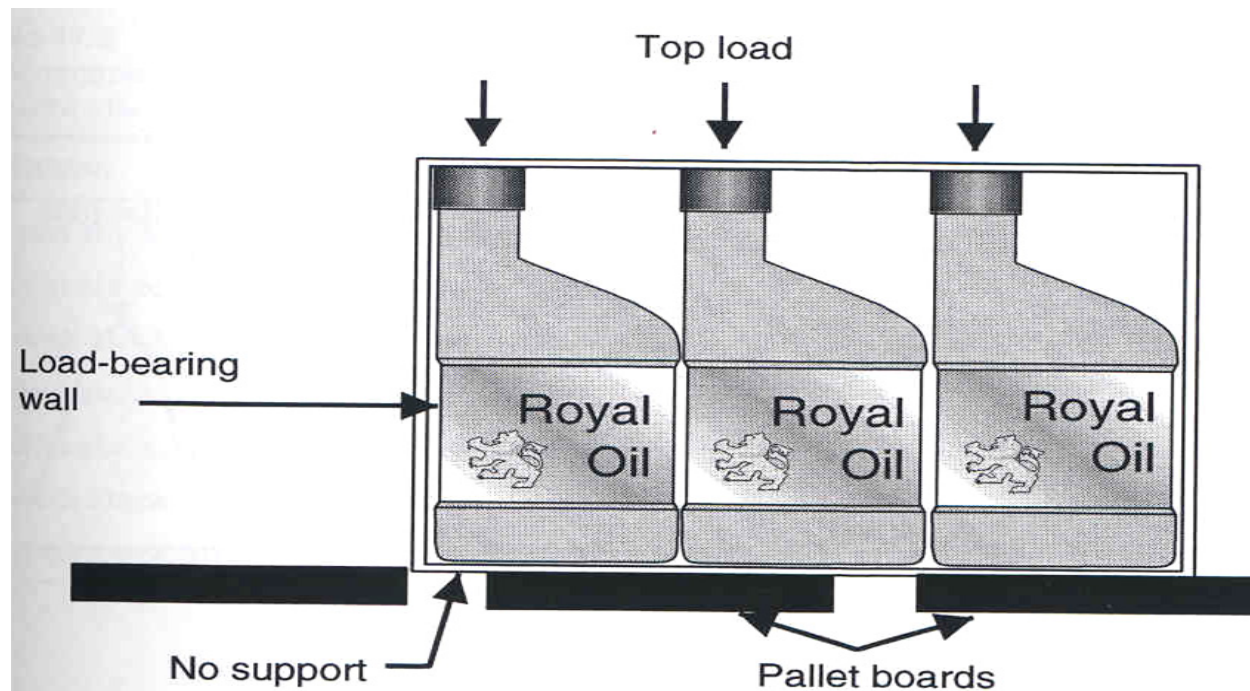

Figure 12.15 Overhang of asymmetrical supporting contents can have a major impact on a container's calculated ability to hold a load
- The asymmetrical nature of the oil bottle shown in Figure 12.15 can result in overhang of the major load-bearing bottle wall segment. The available bottle compression strength is a fraction of the measured value.